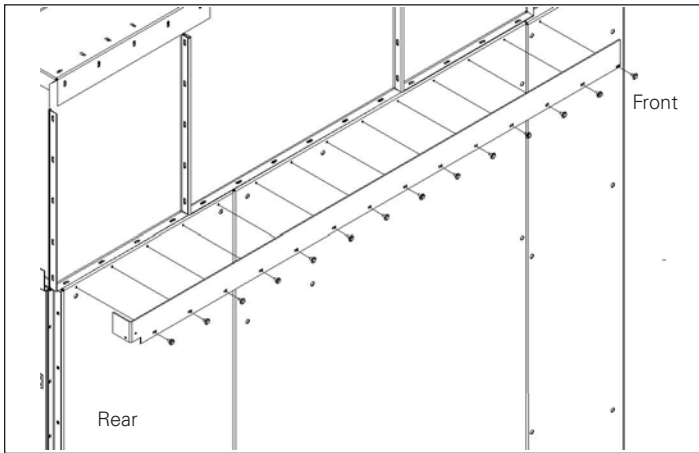

Figure 13. Installation of the Front to Rear Deflector (96-Inch Deep Switchgear)
- D. Hold the front to rear gas deflector (69C4107H01 and H02) in place against the left hand side sheet of the lineup such that the bent portion overlaps on the outside of the Z gas deflector mounted in step 5.1. Line up a slot in both ends of the front to rear gas deflector and loosely insert a self tapping screw in each (See **Figure 13**).